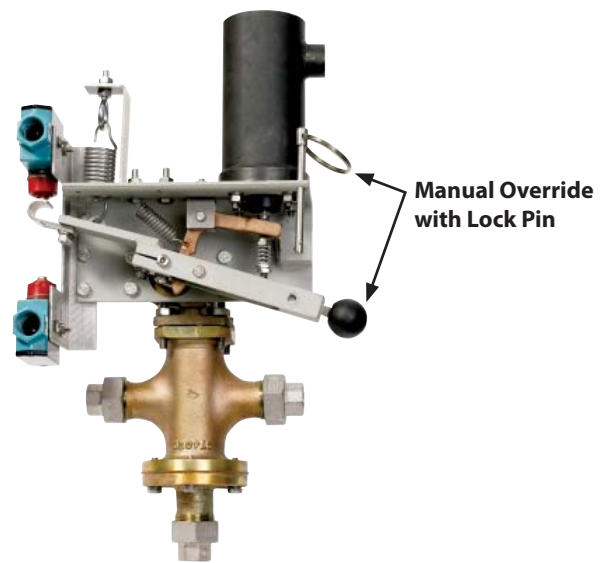

Figure 2
**Manual Override with Lock Pin** allows the valve to be operated manually and locked in place. A knob is added to the lever for easier operation. (see **Figure 2**)